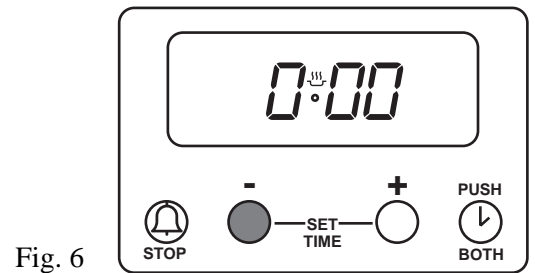

Fig. 6
To set, press button (1) and the display will read $0^{\text{u}}:00$, see Fig. 6.